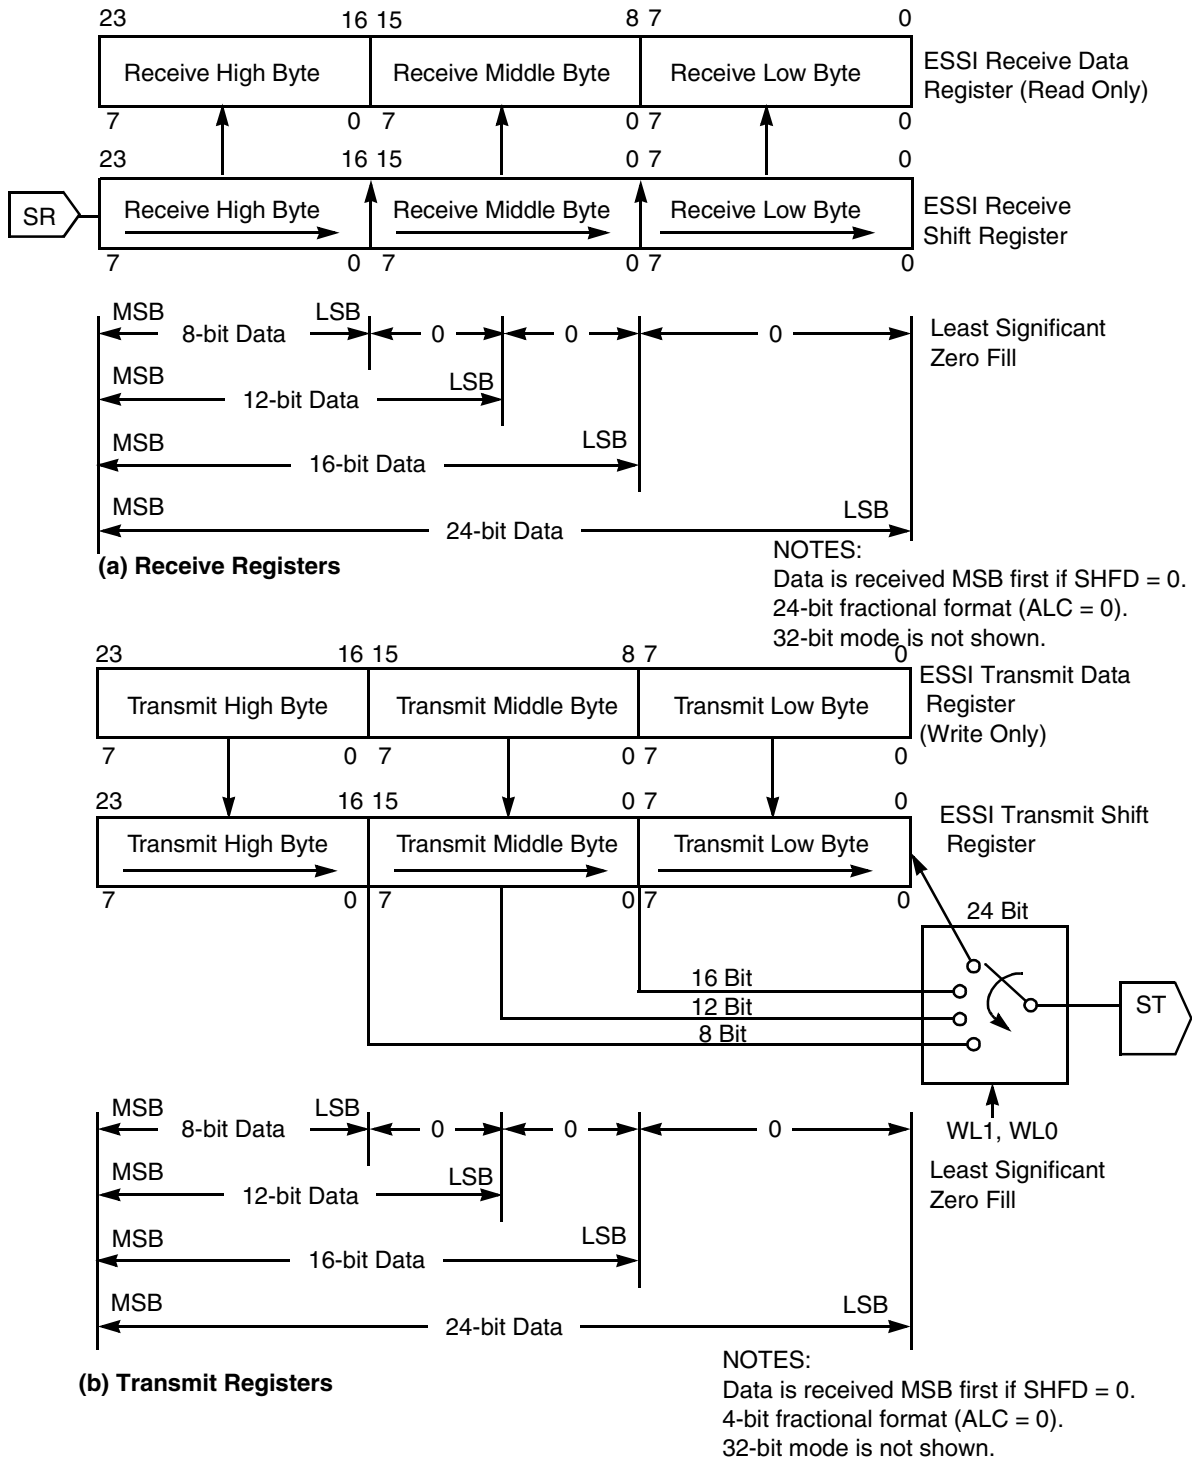

Figure 7-13. ESSI Data Path Programming Model (SHFD = 1)
| 6 | SHFD | 0 | Shift Direction Determines the shift direction of the transmit or receive shift register. If SHFD is set, data is shifted in and out with the LSB first. If SHFD is cleared, data is shifted in and out with the MSB first, as in Figure 7-12, ESSI Data Path Programming Model (SHFD = 0) , on page 7-29 and Figure 7-13 on page -30. | | | | | | | | | | | | | | | | | | | | | | |
The 24-bit Receive Shift Register (see **Figure 7-12** and **Figure 7-13**) receives incoming data from the serial receive data signal. The selected (internal/external) bit clock shifts data in when the associated frame sync I/O is asserted. Data is received MSB first if SHFD is cleared and LSB first if SHFD is set. Data transfers to the ESSI Receive Data Register (RX) after 8, 12, 16, 24, or 32 serial clock cycles are counted, depending on the word length control bits in the CRA.
7.5.5 ESSI Receive Data Register (RX)
The Receive Data Register (RX) is a 24-bit read-only register that accepts data from the receive shift register as it becomes full, according to **Figure 7-12** and **Figure 7-13**. The data read is aligned according to the value of the ALC bit. When the ALC bit is cleared, the MSB is bit 23, and the least significant byte is unused. When the ALC bit is set, the MSB is bit 15, and the most significant byte is unused. Unused bits are read as 0. If the associated interrupt is enabled, the DSP is interrupted whenever the RX register becomes full.
The three 24-bit transmit shift registers contain the data being transmitted, as in **Figure 7-12** and **Figure 7-13**. Data is shifted out to the serial transmit data signals by the selected (whether internal or external) bit clock when the associated frame sync I/O is asserted. The word-length control bits in CRA determine the number of bits that must be shifted out before the shift registers are considered empty and can be written again. Depending on the setting of the CRA, the number of bits to be shifted out can be 8, 12, 16, 24, or 32. Transmitted data is aligned according to the value of the ALC bit. When ALC is cleared, the MSB is Bit 23 and the least significant byte is unused. When ALC is set, the MSB is Bit 15 and the most significant byte is
TX2, TX1, and TX0 are 24-bit write-only registers. Data written into these registers automatically transfers to the transmit shift registers. (See **Figure 7-12** and **Figure 7-13**.) The data transmitted (8, 12, 16, or 24 bits) is aligned according to the value of the ALC bit. When the ALC bit is cleared, the MSB is Bit 23. When ALC is set, the MSB is Bit 15. If the transmit data register empty interrupt has been enabled, the DSP is interrupted whenever a transmit data register becomes empty.
TSMA and TSMB (as in **Figure 7-12** and **Figure 7-13**) can be seen as a single 32-bit register, TSM. Bit n in TSM (TSn) is an enable/disable control bit for transmission in slot number N. When TSn is cleared, all the data signals of the enabled transmitters are tri-stated during transmit time slot number N. The data still transfers from the enabled transmit data register(s) to the transmit shift register. However, the TDE and the TUE flags are not set. Consequently, during a disabled slot, no transmitter empty interrupt is generated. The DSP is interrupted only for enabled slots. Data written to the transmit data register when the transmitter empty interrupt request is serviced transmits in the next enabled transmit time slot. When TSn is set, the transmit sequence proceeds normally. Data transfers from the TX register to the shift register during slot number N, and the TDE flag is set. The TSM slot mask does not conflict with the TSR. Even if a slot is enabled in the TSM, you can chose to write to the TSR to tri-state the signals of the enabled transmitters during the next transmission slot. Setting the bits in the TSM affects the next frame transmission. The frame being transmitted is not affected by the new TSM setting. If the TSM is read, it shows the current setting.
RSMA and RSMB (as in **Figure 7-12** and **Figure 7-13**) can be seen as one 32-bit register, RSM. Bit *n* in RSM (RS_{*n*}) is an enable/disable control bit for time slot number *N*. When RS_{*n*} is cleared, all the data signals of the enabled receivers are tri-stated during time slot number *N*. Data transfers from the receive data register(s) to the receive shift register(s), but the RDF and ROE flags are not set. Consequently, during a disabled slot, no receiver full interrupt is generated. The DSP is interrupted only for enabled slots. When RS_{*n*} is set, the receive sequence proceeds normally. Data is received during slot number *N*, and the RDF flag is set.